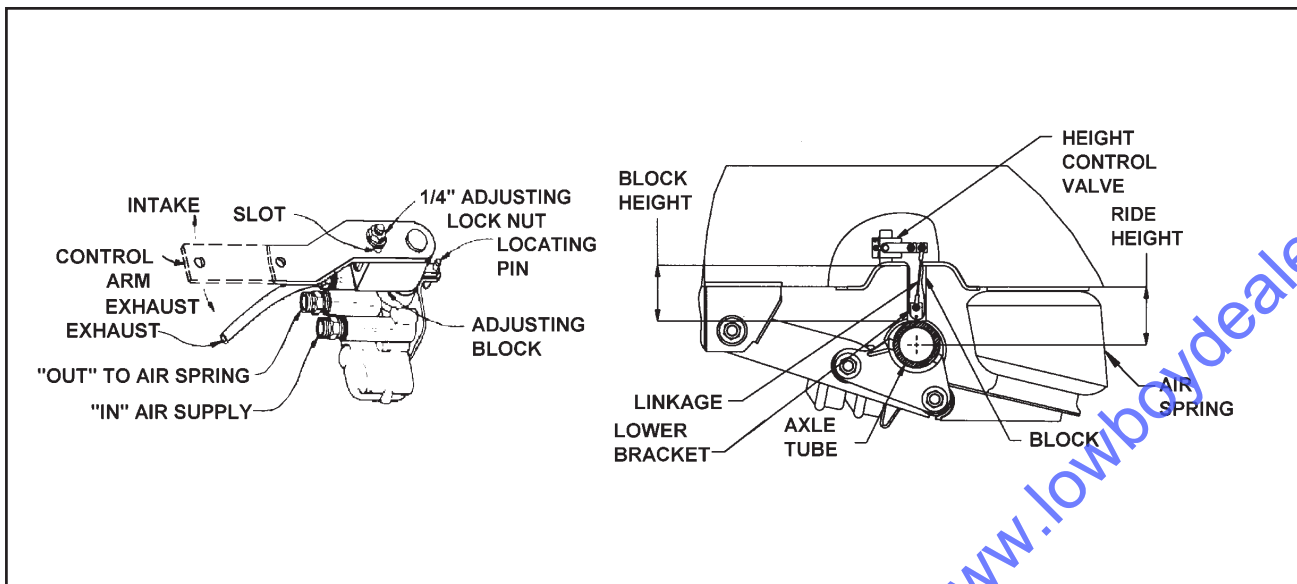

Figure 4-5 Air Ride Height Adjustment
4-6.3 Air Ride Height Adjustment. (See Figure 4-5 for parts identification).
- Disconnect linkage at the control arm and raise control arm to the "up" position, raising the trailer until a block can be placed between axle tube and undercarriage frame (See Figure 4-5).
- f. Loosen the 1/4" adjusting lock nut located on the adjusting block, allowing the control arm to move approximately 1 inch. Move the adjusting block until holes align, then insert locating pin. **(See Figure 4-5).**